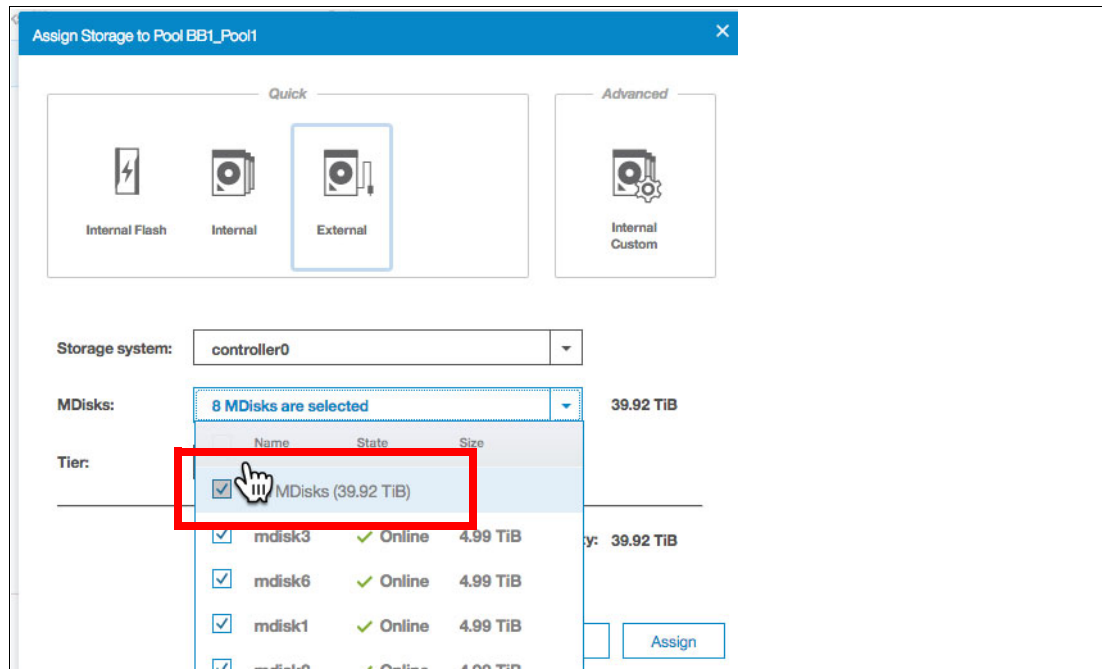

Figure 4-53 Select all MDisks
6. This will bring up the unused storage, as shown in Figure 4-53. Select **All MDisks** from the pull-down menu, which makes all of the MDisks part of the storage pool.